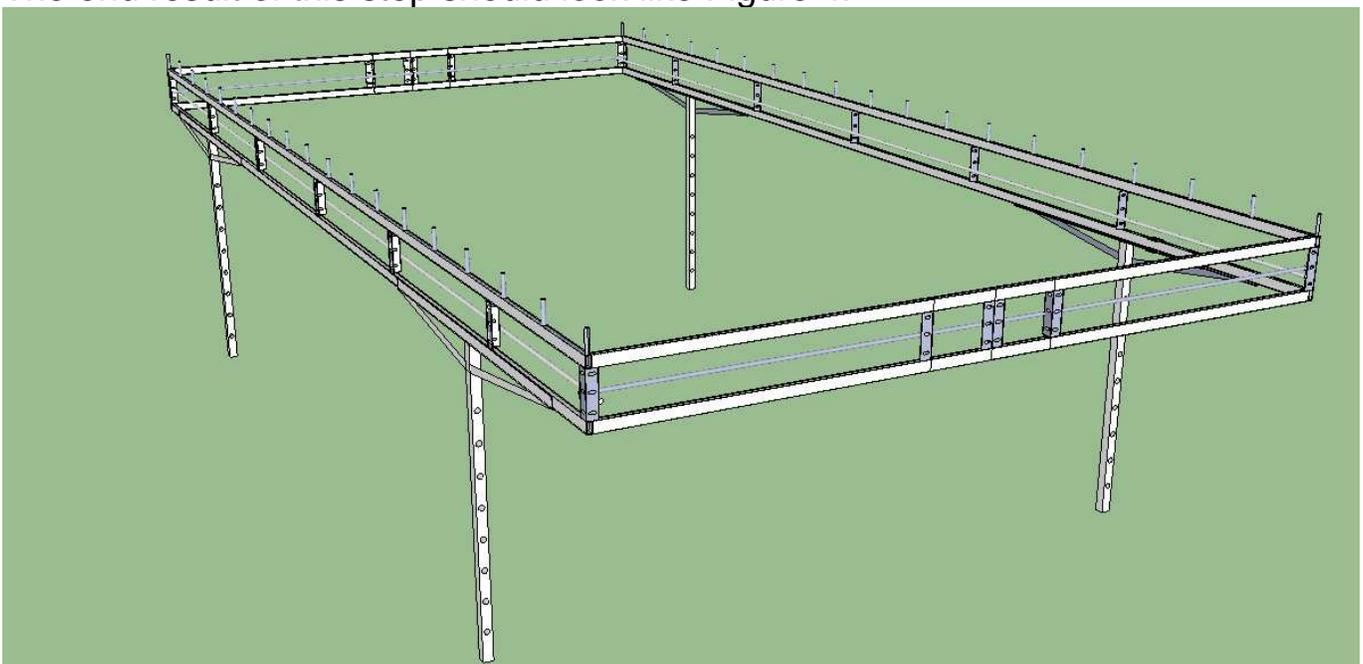

Figure 4
Step 4: Raise the canopy on to the "Y" braces and move it fore or aft to position it where it will cover the boat properly. NOTE: The canopy will be a tight fit but that is good, place one side on the lower angle and the other will probably need to be forced down into the angle, its best to position it first then push it down into place. The end result of this step should look like Figure 4.